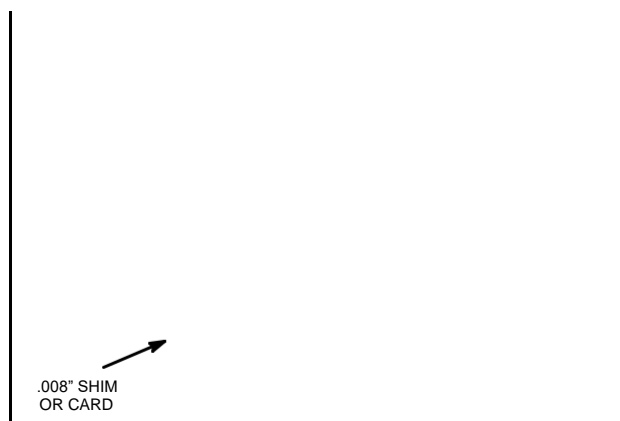

Fig. 36 – REPLACING ARMATURE
Remove armature lead wires, ignition cable, four (4) armature mounting screws, lockwashers, and plain washers. To replace, reverse operation, Fig. 36. Be sure to adjust air gap after flywheel is assembled.
Turn flywheel until magnets are directly below the armature laminations. Raise armature and insert a strip of .008" (0.20 mm) brass shim stock, or Instruction Tag, MS-1342 (supplied with new armatures) between the end of the armature laminations and the flywheel magnets. Press armature down and tighten screws. Pull shim out, Fig. 36.